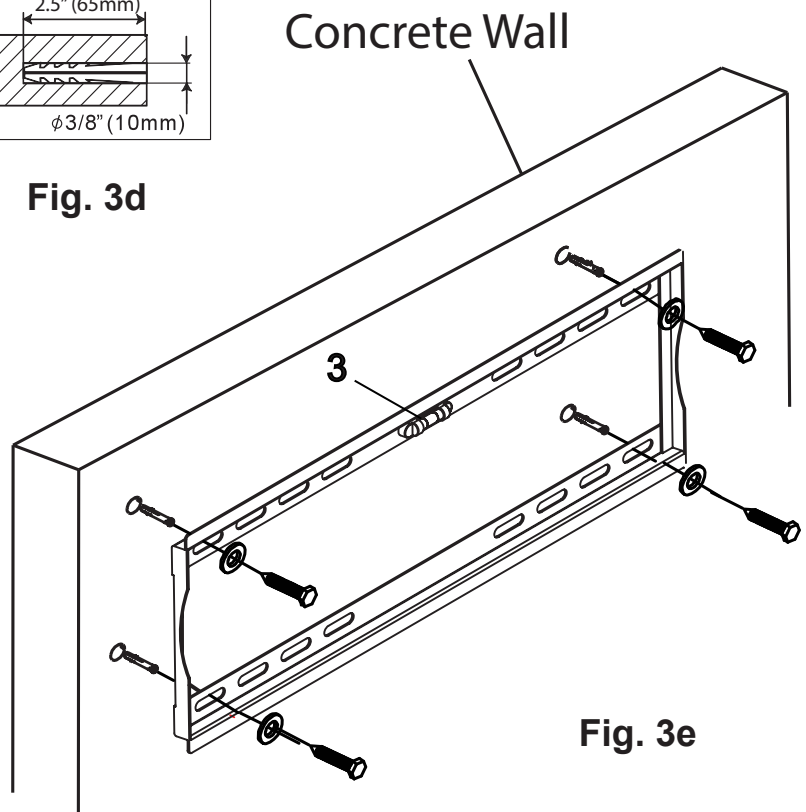

Fig. 3e
3. Insert a **Wall Anchor (B)** into each pre-drilled hole and lightly tap it with a hammer until the wall anchor is flush with the wall.
4. Use a wrench, the four **Long Bolts (A)**, and **Washers (C)** to attach the wall mount to the wall with the **Wall Anchors (B)** (Fig 3e).
5. Use the **Magnet Level (3)** placed on the front of the mounting plate to level the wall mount, repositioning as necessary, then securely tighten the bolts.